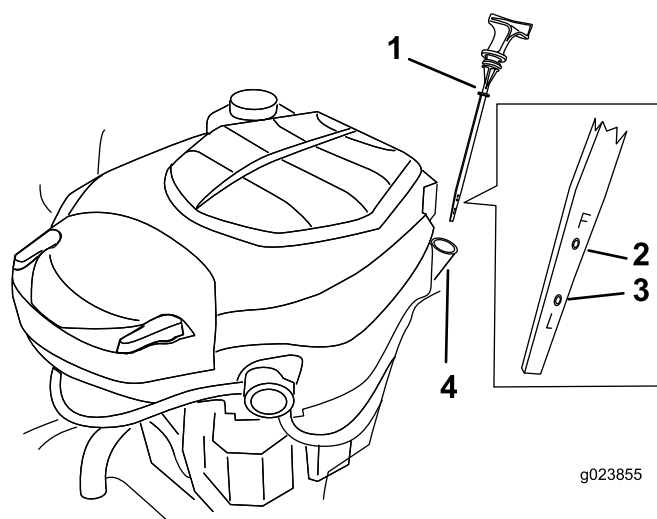

Figure 29
4. Remove the dipstick; wipe oil off (Figure 29). Reinsert the dipstick into the tube.
5. Pull the dipstick out and check the oil level. (Figure 29).
7. Remove the oil fill cap/dipstick (Figure 29).
13. Slowly pour approximately 80% of the specified oil into the filler tube (Figure 29).
14. Install the oil fill cap/dipstick (Figure 29).
15. Check the oil level (Figure 29); refer to Checking the Oil Level.
17. Install the oil fill cap/dipstick (Figure 29).